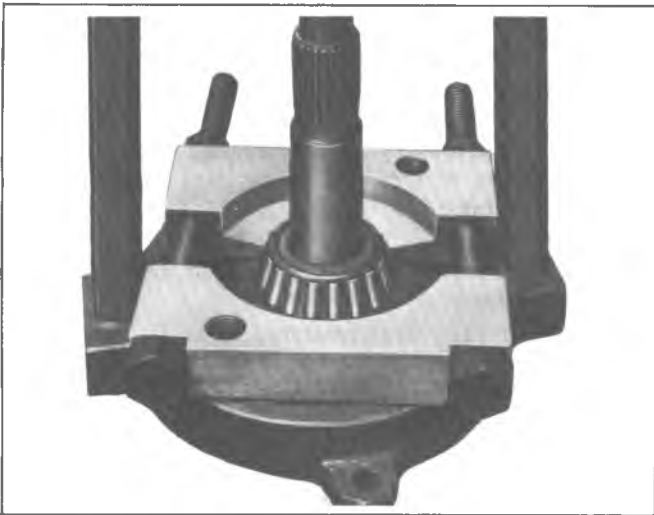

Fig. 18F--Removing Inner Pinion Bearing Cone and Roller
6. Remove inner pinion cone and roller using Tool J-22912, installed as shown in Figure 18F, and press pinion from bearing.